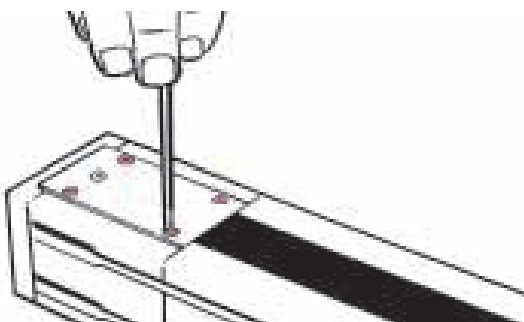

Figure 19: Removing the linear positioner cover.
- Remove the cover of the idle head loosening only the four outer screws Figure 19.